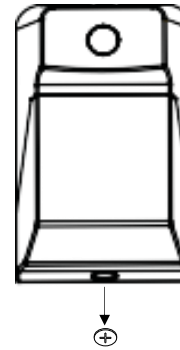

Figure 9
6. Remove the conduit plug from the bottom of the luminaire (see Figure 9).